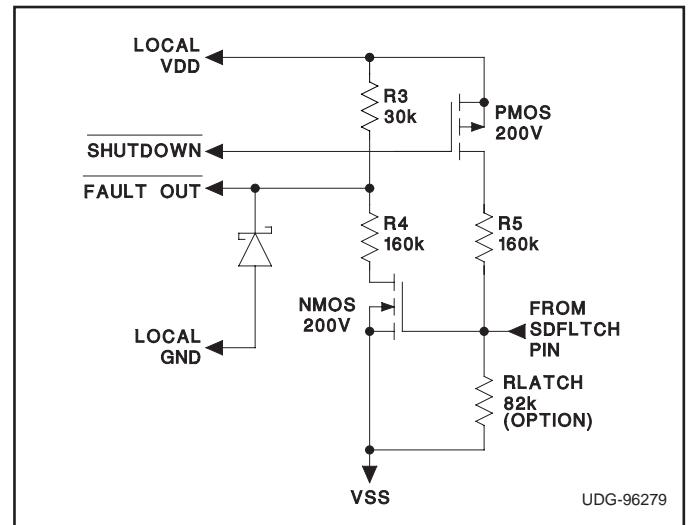

Figure 6. Possible Level Shift Circuitry to Interface to the UCC3921, showing component values selected for a typical telecom application.
Some type of circuit is needed to interface with the UCC3921 via SDFLTCH, such as opto-couplers or level shift circuitry. Figure 6 depicts one implementation of level shift circuitry that could be used, showing component values selected for a typical -48V telecommunications application. There are three communication conditions which could occur; two of which are Hot Swap Power Manager (HSPM) state output indications, and the third being an External Shutdown.
- 1) When open, and under a non-fault condition, SDFLTCH is pulled to a low state. In Figure 6, the N-channel level shift transistor is off, and the FAULT OUT signal is pulled to LOCAL VDD through R3. This indicates that the HSPM is not faulted.
- 2) When a fault is detected by the fault timer or undervoltage lockout, this pin will drive to a high state, indicating that the external power FET is off. In Figure 6, the N-channel level shift transistor will conduct, and the FAULT OUT signal will be pulled to a Schottky Diode voltage drop below LOCAL GND. This indicates that the HSPM is faulted. The Schottky Diode is necessary to ensure that the FAULT OUT signal does not traverse too far below LOCAL GND, making fault detection difficult.
If a $5\text{k} < R_{\text{LATCH}} < 250\text{k}\Omega$ resistor is tied between SDFLTCH & VSS, as optionally shown in Figure 6, then the latched operating mode (described earlier) will be invoked upon the occurrence of a fault.